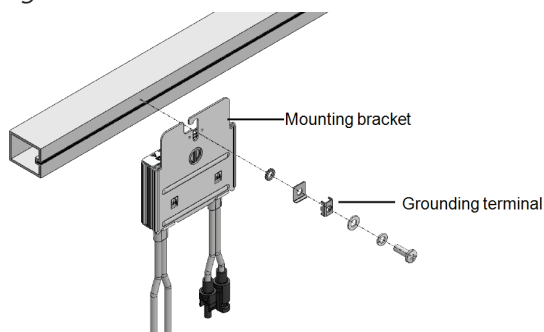

Figure 6: Power optimizer grounding terminal
■ **For mounting on un-grounded structures** (such as a wooden structure): If the star washer or the plate cannot be used, use the SolarEdge grounding lug (purchased separately) with an equipment-grounding conductor according to the supplied instructions. The grounding terminal accepts a wire size of 6-14 AWG, and must be sized for equipment grounding per NEC 250.122 requirements. Tighten the screws connecting the power optimizer to the frame and the grounding terminal screw. Apply torque of 9.5 N*m / 7 lb*ft. See Figure 6.